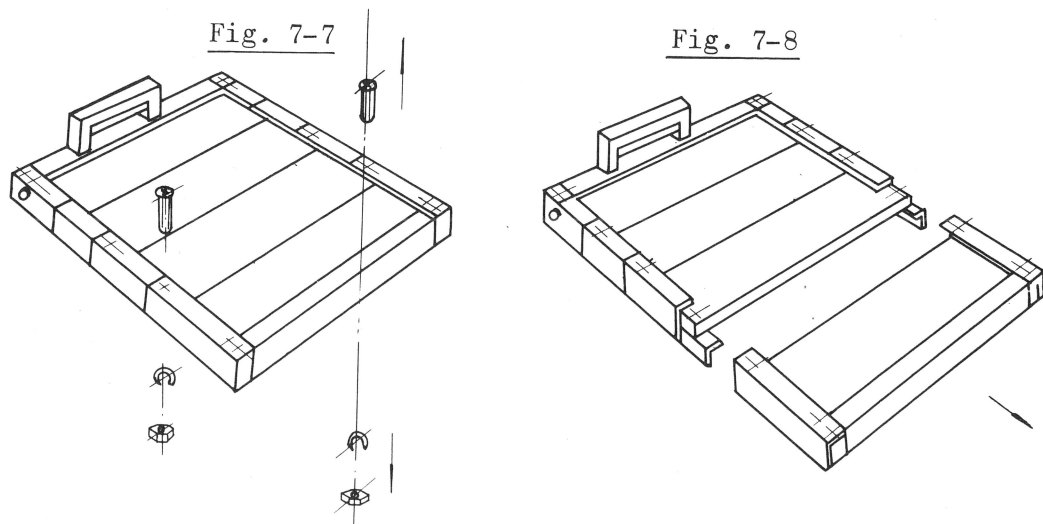

Fig. 7-9
3. Connect the additional patch board. (Refer to Fig. 7-9)